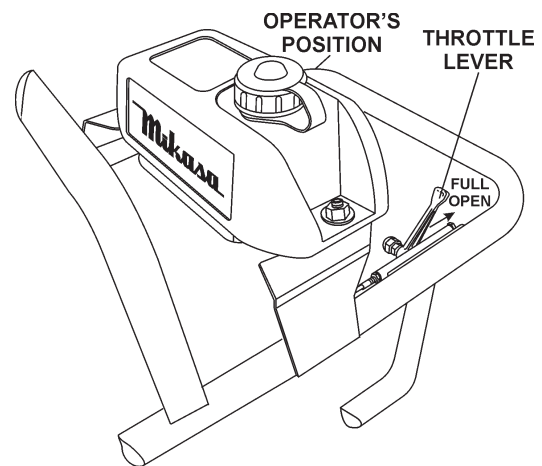

Figure 12. Throttle Lever (Full Open)
1. To start the rammer tamping action, move the throttle lever (Figure 12) **quickly** from **IDLE** (close) to the **FULL OPEN** position. **DO NOT** move the throttle lever slowly as this may cause damage to the clutch or spring.